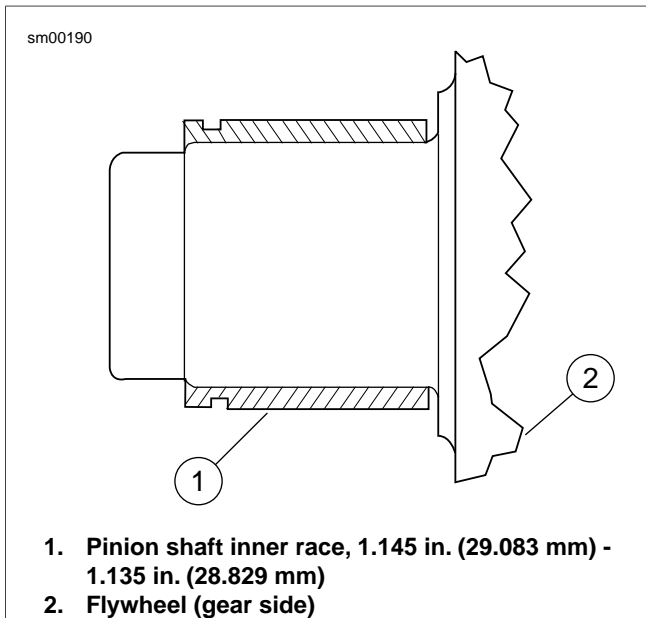

Figure 3-132. Inner Race Location
- See Figure 3-132. Press new inner race on pinion shaft as shown. When the tool bottoms against the flywheel, correct inner race location is automatically established. The finished inner race must meet the specifications in Table 3-32.